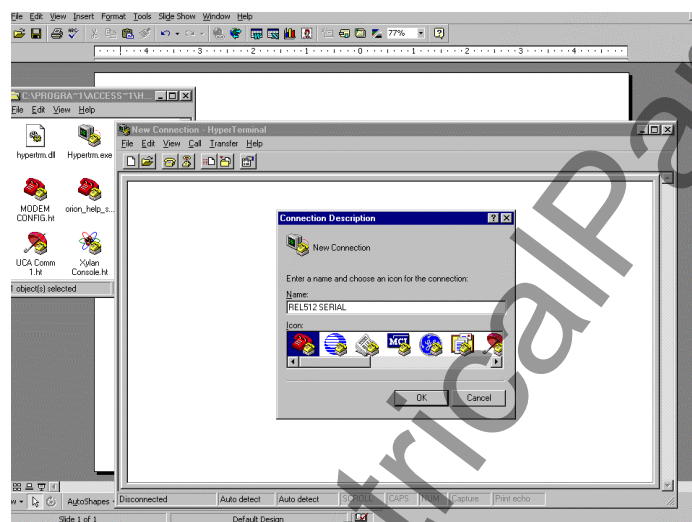

Figure 43 – Hyperterminal Setup Screen
2. Select the icon labeled Hyperterminal.exe. The screen illustrated in Figure 43 should be visible. The operator will be prompted for a name as illustrated.